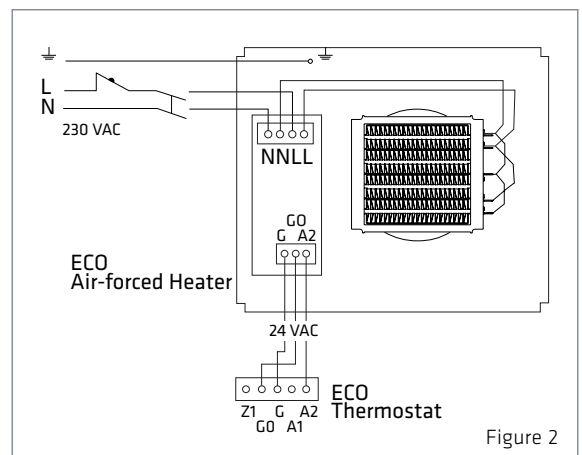

Figure 2
3. Remove the three fixing screws (3) of the perforated cover (2) and pull the cover away from the rear part (1).
4. Push the collar of the rear part inside the supply air duct and fix the rear part to the ceiling, using four screws (4), Ø max 5 mm.
5. Connect the supply cable of the supply air unit (MMJ) and the control cable of the thermostat (KLMA) to the terminals of the electronic part of the supply air unit as shown on Figure 2.
1. Connect supply voltage (230V) to terminals N and L of the electronic part of the supply air unit as shown on Figure 2.
2. Connect the grounding to the separate ground terminal in the supply air unit as shown on Figure 2.
3. Connect the supply air unit of the ECO series to the thermostat by means of the KLMA cable as shown on Figure 2.
2. Remove the cover (2) of the thermostat from the rear part (1), using e.g. a small screwdriver (clips at the upper and lower edge of the thermostat).
3. Fix the rear part of the thermostat either to the instrument box or directly on the wall, using screws (3).
4. Connect the cables to the terminal block (5) as shown on Figure 2.